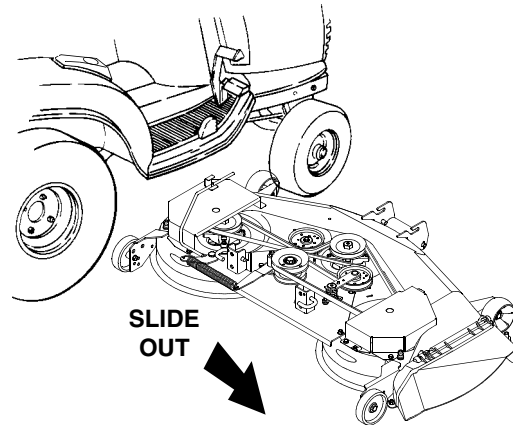

Figure 47
10. With the tractor implement lift handle raised to its highest setting, slide the deck to the right and out from under the tractor (See Figure 47).